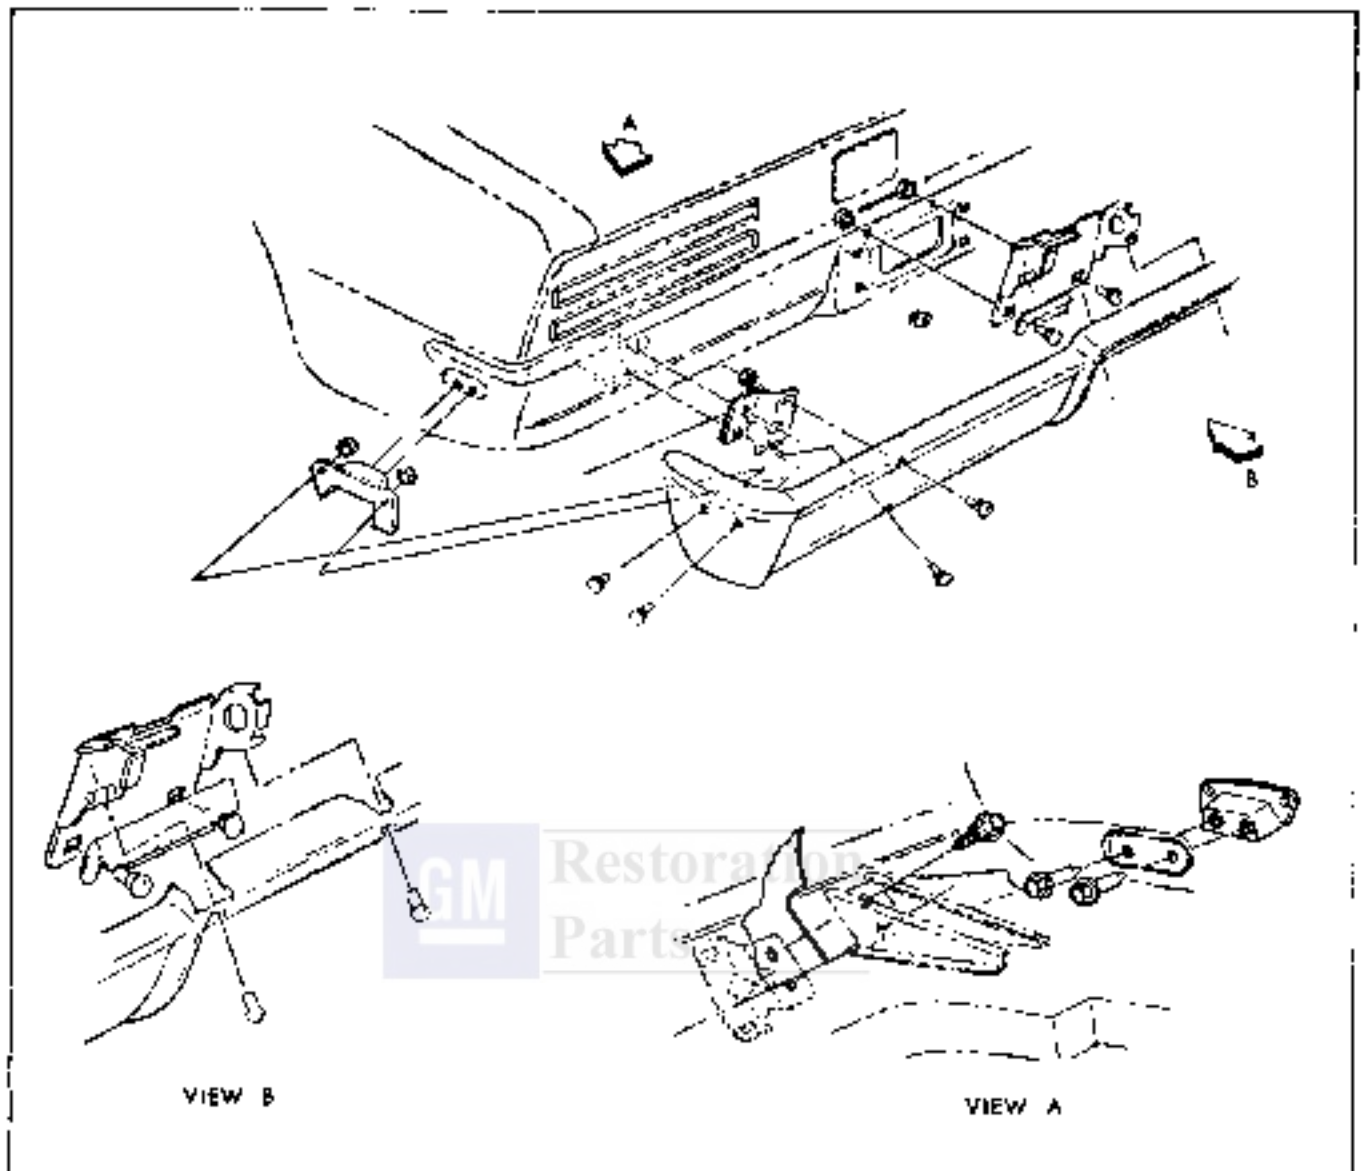

Fig. 14-16 Firebird Rear Bumper
1. Raise and support rear of vehicle (Fig. 14-16).